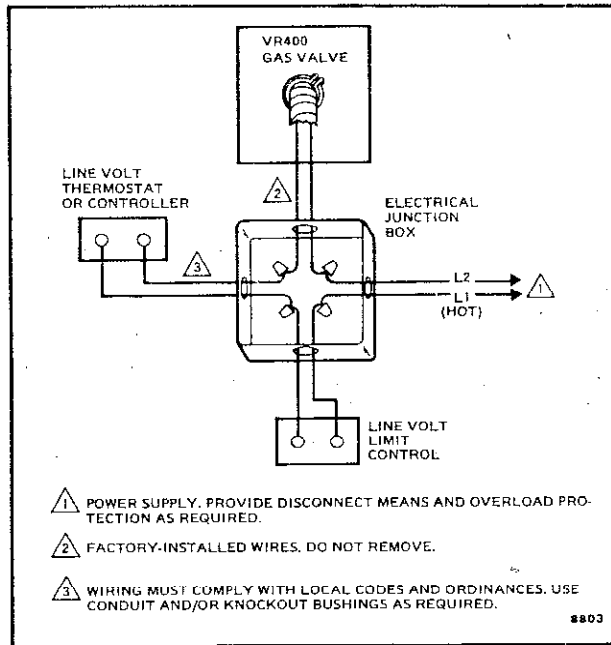

Fig. 4—Typical wiring diagram for line volt system.
WIRING LINE VOLT MODELS (FIG. 4)
1. Install the line voltage thermostat (or controller) and other controls as required. Refer to Fig. 4 for typical wiring diagram.